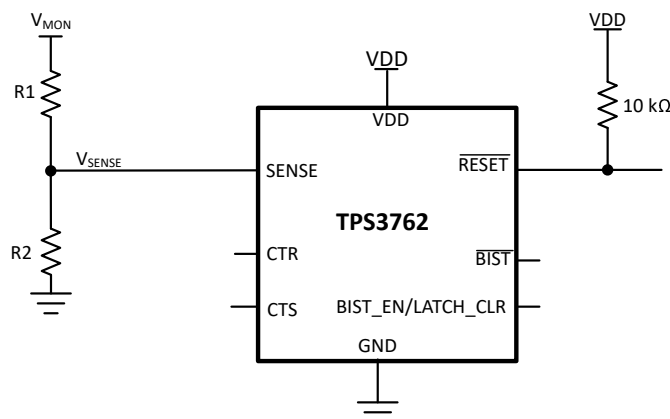

図 8-1. Adjustable Voltage Threshold with External Resistor Dividers
図 8-1 illustrates an example of how to adjust the voltage threshold with external resistor dividers. The resistors can be calculated depending on the desired voltage threshold and device part number. TI recommends using the 0.8 V voltage threshold device when using an adjustable voltage variant. This variant bypasses the internal resistor ladder.
For example, consider a 12 V rail,  $V_{MON}$ , being monitored for overvoltage (OV) using of the TPS3762D02OVDDFR variant, as shown in 図 8-1. The monitored OV threshold, denoted as  $V_{MON+}$ , is the desired voltage where the device asserts the reset. For this example  $V_{MON+} = 35$  V. To assert an overvoltage reset the voltage at the sense pin,  $V_{SENSE}$ , needs to be equal to the input threshold positive,  $V_{ITP}$ . For this example variant  $V_{SENSE} = V_{ITP} = 0.8$  V. Using  $R_1$  and  $R_2$  the correlation between  $V_{MON+}$  and  $V_{SENSE}$  can be seen in 式 8. Assuming  $R_2 = 10$  k $\Omega$ , and  $R_1$  can be calculated as  $R_1 = 427.5$  k $\Omega$ .